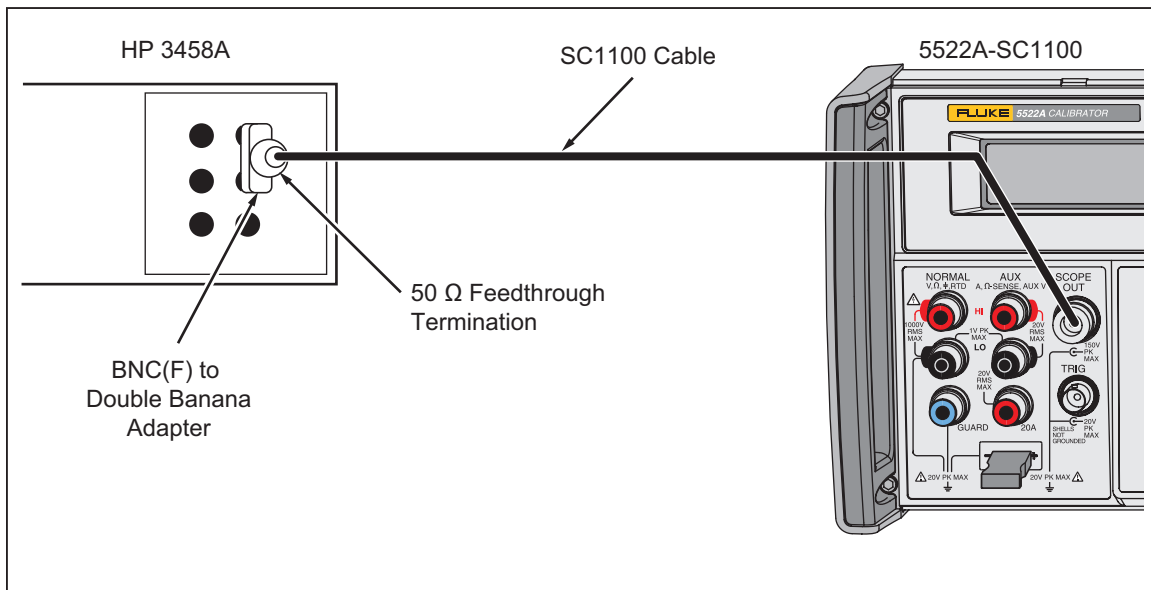

Figure 7-4. Equipment Setup for SC1100 Edge and Wave Gen Square Wave Measurement
The setup to measure the topline and baseline of Edge and Wave Generator signals is a little different from the Voltage Square Wave method given above. The HP 3458A is triggered by a change in input level rather than an external trigger. The trigger level is set to 1 % of the DCV range, with ac coupling of the trigger signal. The delay after the trigger event is also changed for the Edge and Wave Generator functions. See Table 7-3 and Figure 7-4.
For all measurements, the HP 3458A is in DCV, manual range, with level triggering enabled. A convenient method to make these measurements from the front panel of the HP 3458A is to put these parameters into some of the user-defined keys. For example, to make topline measurements at 1 kHz, you set the DMM to “NPLC .01; LEVEL 1; DELAY .0002; TRIG LEVEL”. To find the average of multiple measurements, you can set one of the keys to “MATH OFF; MATH STAT” and then use the “RMATH MEAN” function to recall the average or mean value. Refer to Figure 7-4 for the correct connections.
See Figure 7-4 for the correct equipment connections.
This procedure uses the same equipment and setup as DC Voltage calibration. Refer to Figure 7-4. DC voltages are measured and typed in to the Calibrator to calibrate the AC Voltage function.
1. Setup the equipment as shown in Figure 7-4.